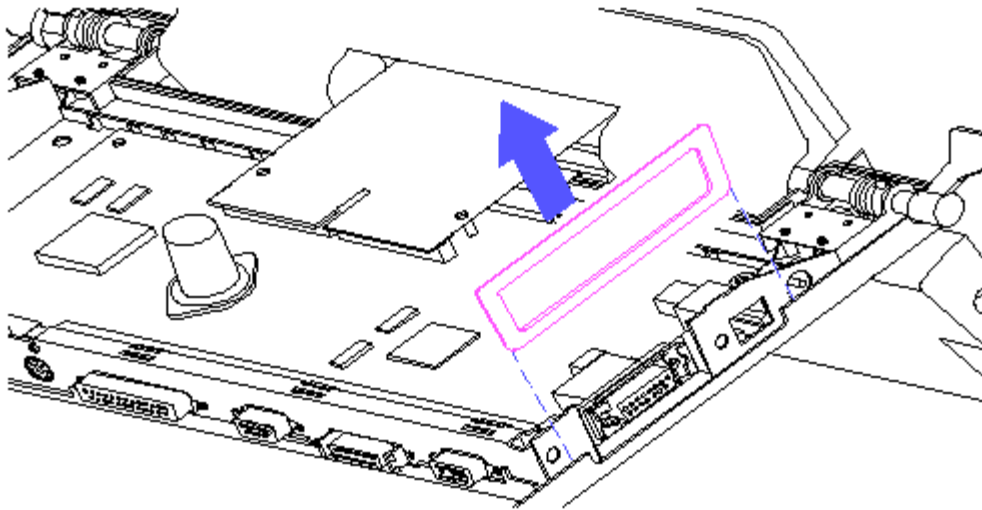

Figure 4-18. Removing the Bezel
4. Remove the bezel from side of the FlexConnect (Figure 4-18).